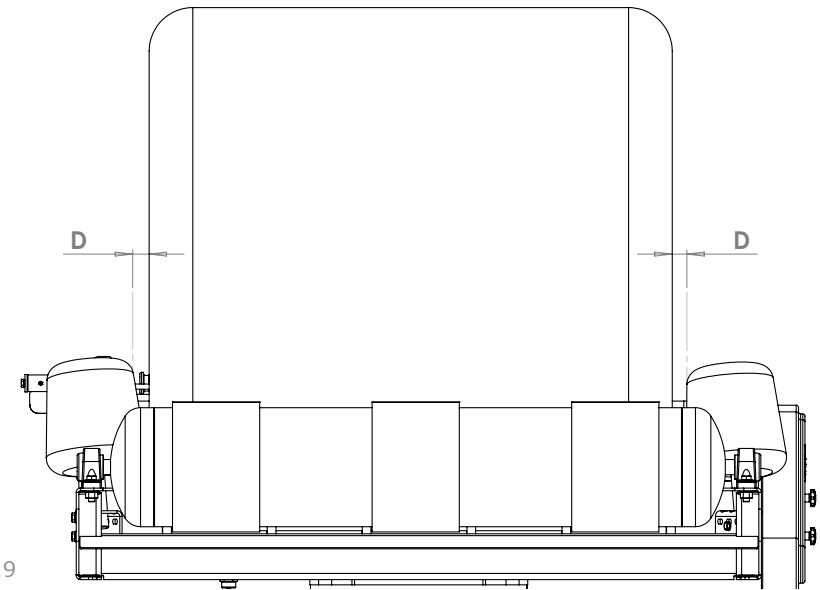

Fig. 6.9
To allow for stability of the bale during the wrapping process the support rollers can be adjusted different sized bales. It is important that the support rollers are adjusted so that the bale is in the middle of the table. When the bale is on the table (See Fig. 6.9) the distance between the ends of the bale and the support rollers (D) should be $<50\text{mm}$.